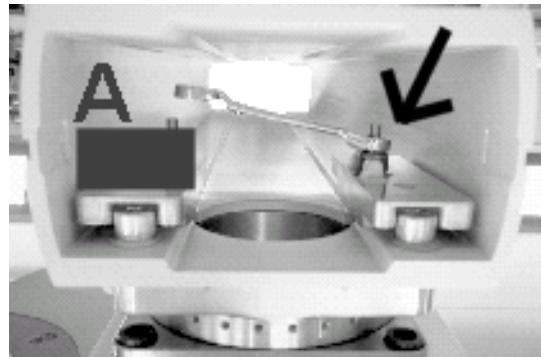

Fig. 6
- Release the pneumatic brake (A/Fig. 6) via the operating console of the ARCOSKOP (working position).
- Set the friction brake so that the stand cannot move by itself, see Fig. 6.